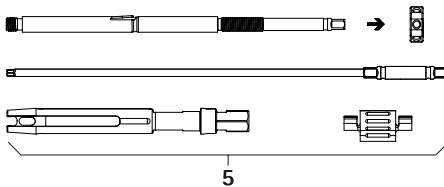

Fig. 2
- Dismount reduction lever percutaneous 5, see Fig. 2.